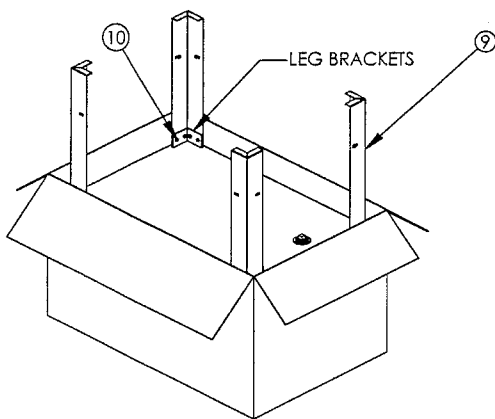

FIGURE 1
4. Assemble the legs to the brackets on the bottom of the tank. The bolt package is located in the parts basket. DO NOT tighten the bolts at this time (See figure 1).